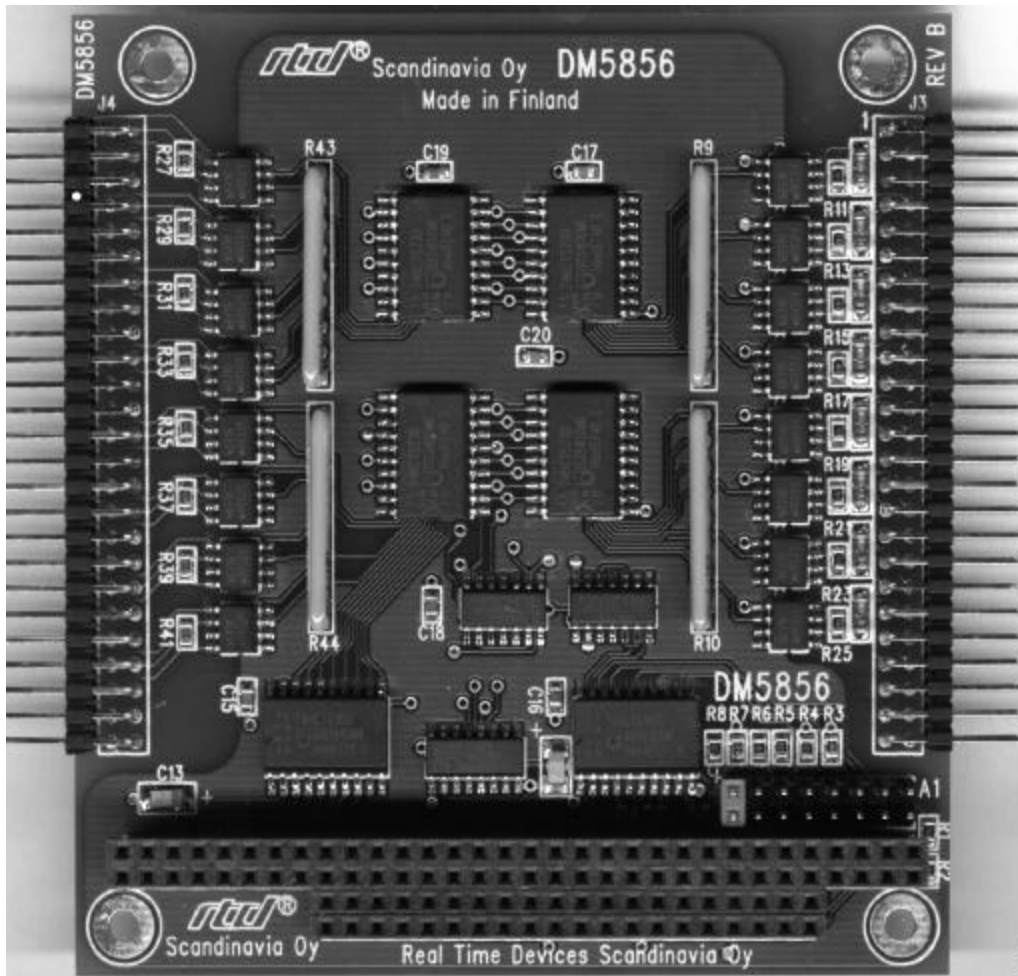

Figure 2-1 - Board layout showing jumper locations (Figure shows DM6856 board)
- Fig. 2-1 : Board layout showing jumper locations
Table 2-1: Factory jumper settings (see figure 2-1 below for detailed locations)